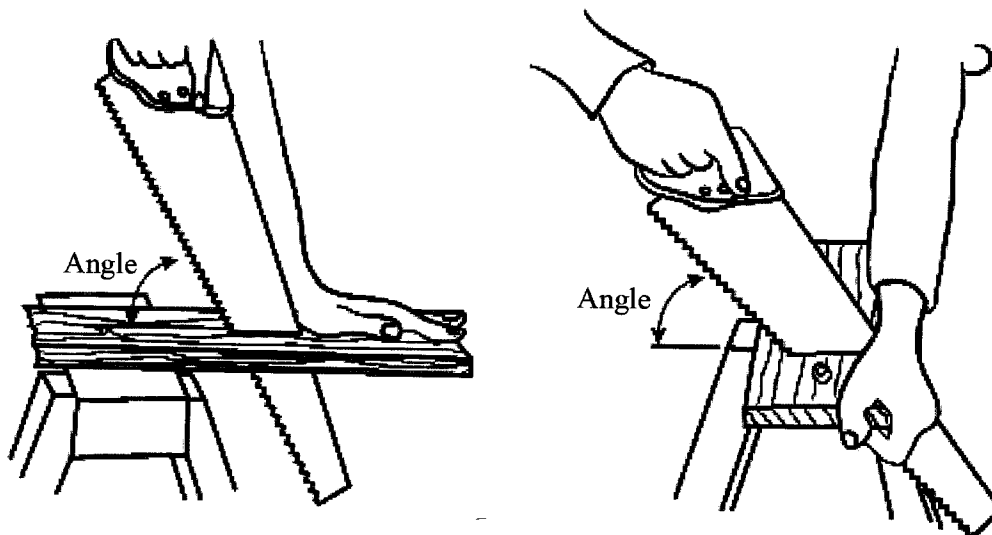

Figure 8
- (b) **Figure 8** shows two methods of sawing timber.